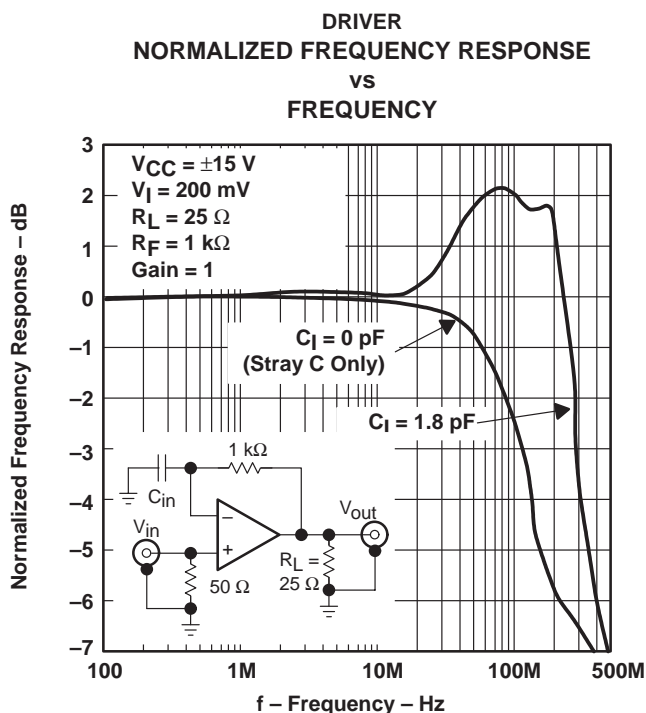

Figure 85. Driver Normalized Frequency Response vs Frequency
- Input stray capacitance – To minimize potential problems with amplifier oscillation, the capacitance at the inverting input of the amplifiers must be kept to a minimum. To do this, PCB trace runs to the inverting input must be as short as possible, the ground plane should be removed under any etch runs connected to the inverting input, and external components should be placed as close as possible to the inverting input. This is especially true in the noninverting configuration. An example of this can be seen in Figure 85, which shows what happens when 1.8 pF is added to the inverting input terminal in the noninverting configuration. The bandwidth increases dramatically at the expense of peaking. This is because some of the error current is flowing through the stray capacitor instead of the inverting node of the amplifier. Although, in the inverting mode, stray capacitance at the inverting input has little effect. This is because the inverting node is at a *virtual ground* and the voltage does not fluctuate nearly as much as in the noninverting configuration.